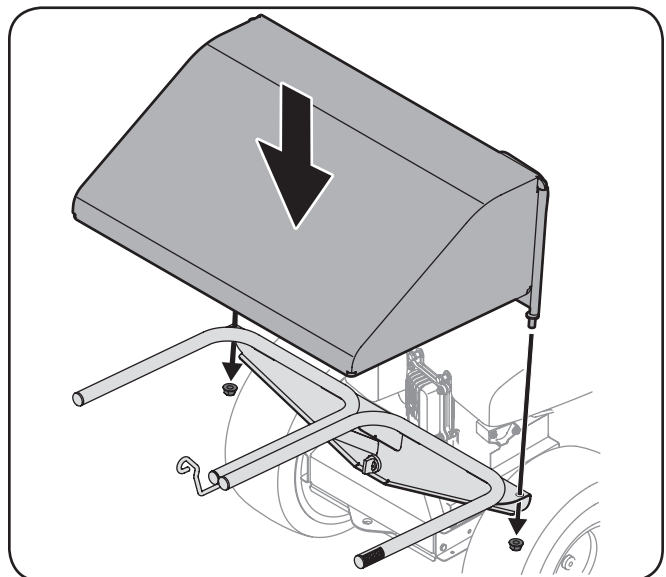

Figure 4-4
5. Remove the protective caps on the bagger cover hood mounting threads and attach the bagger hood over the grass-bag mounting assembly as shown in Figure 4-4. Align the tabs on the hood into the slots on the grass-bag mounting assembly. Secure the bagger hood using two flange lock nuts (712-04150) included in the same hardware pack.